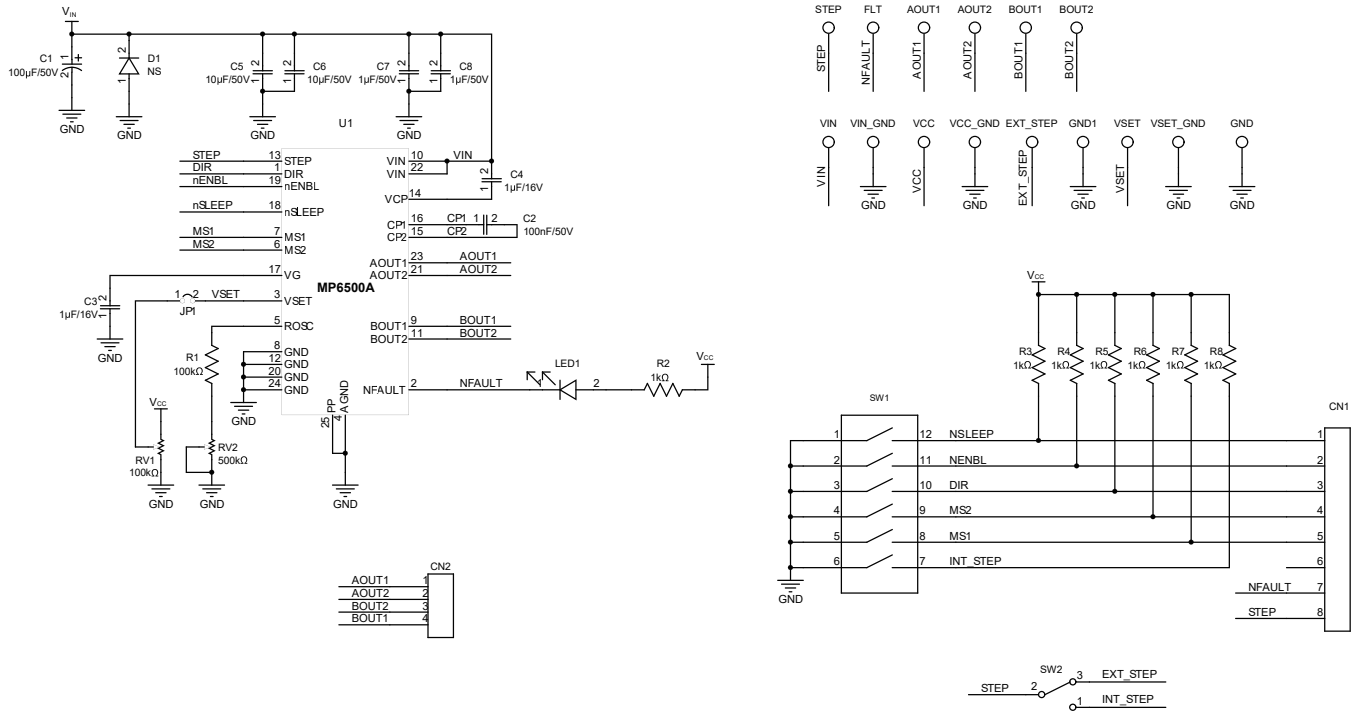

Figure 1: Evaluation Board Schematic
3. Switch SW2 to the top side (Terminal 3 in Figure 1 on page 3) to enable the external step signal input from the EXT_STEP connector.